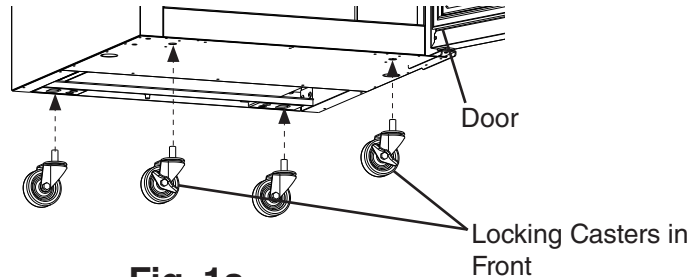

**Fig. 1a**
- 3) Attach the casters to the bottom of the appliance. Locking casters should be attached to the front of the appliance. See Fig. 1a. **NOTICE! Ensure casters are completely threaded into appliance and tight.**